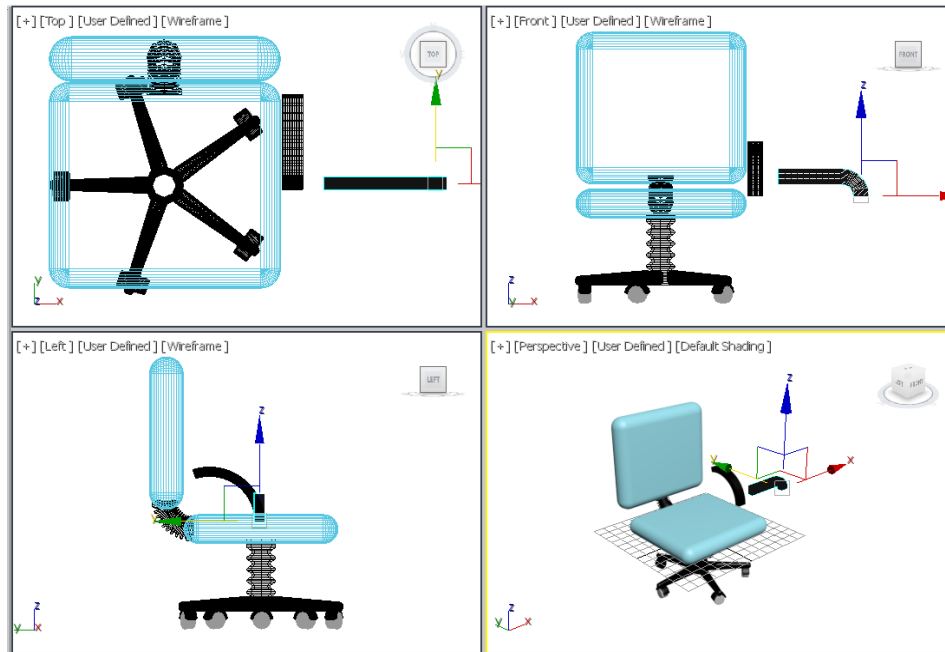

Figure 3-48 The right hand support002 geometry after modifying the values of the **Bend** modifier
11. After entering the values, *right hand support002* is modified, as shown in Figure 3-48.